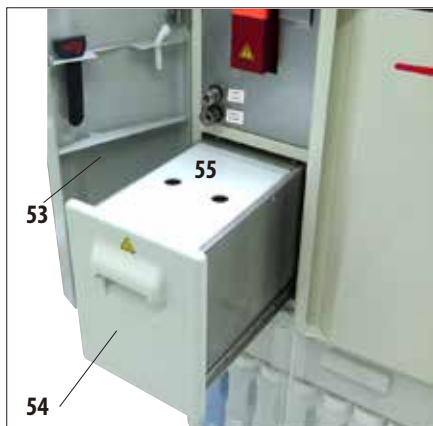

Fig. 37
- The paraffin station (54) is located behind the left door (53) of the instrument, below the retort (Fig. 37). It ensures that sufficient fresh, liquid paraffin is always available for the paraffin baths. The capacity is 5.0 l of liquid paraffin.